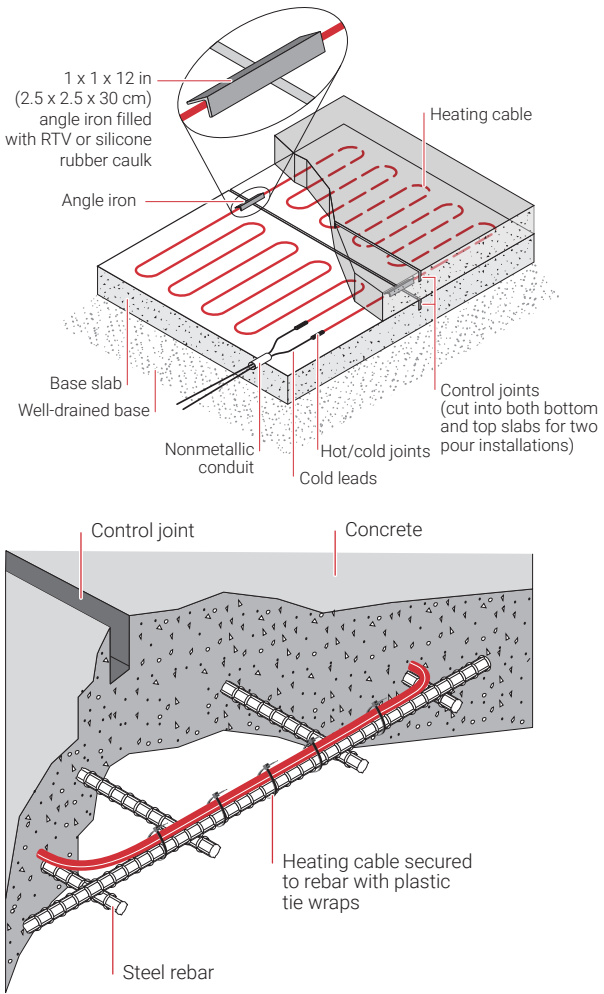
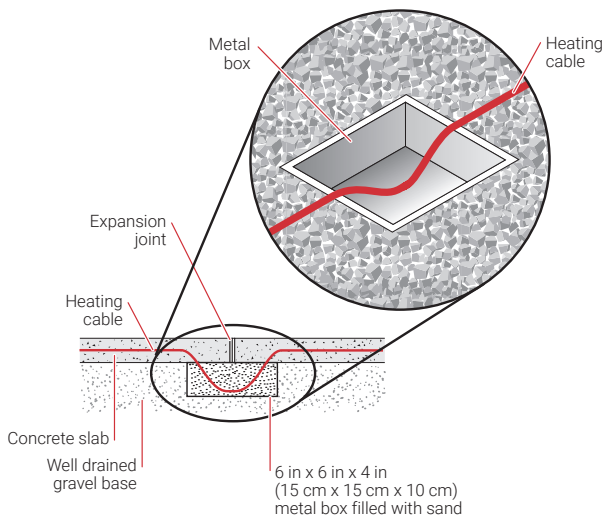

Figure 9: Crossing control joints
Figure 10: Crossing expansion joints
The location of all joints in the ramp or slab should be recorded on the layout drawing. Plan the general layout of the heating cables to avoid crossing control and expansion joints. In some cases, the placement of these joints may have to be relocated in order to divide the area equally since the quantity of heating cables supplied may have been based on equal subsection areas. If necessary, control joints can be crossed using one of the two methods shown in Figure 9. Crossing expansion joints should be avoided, but if this is not possible, use the method shown in Figure 10.
**Control joints** are intended to control where the slab will crack. Their exact location is determined by the concrete installers before the concrete is poured. Because of the reinforcement in the base slab, there is rarely a shearing action caused by differential vertical movement between the concrete on either side of the crack. As a precautionary measure, however, either of the two methods of crossing control joints shown in Figure 9 should be used. Minimize the number of times the joint is crossed as shown in Figure 9. When installing cables using the two-pour method, control joints must be placed in both the base slab and the surface slab.
Construction joints are joints that occur when the concrete pour is going to stop but will resume at a later date. Therefore, their location may not be known beforehand. However, the reinforcement is left protruding out of the first pour so that it enters the next pour and therefore shearing action rarely occurs due to differential vertical movement between the concrete on either side of the joint. As a precautionary measure, either of the two methods of crossing control joints shown in Figure 9 should be used.
adjoining structure. **Avoid crossing expansion joints with the heating cable.** If this is not possible, expansion joints can be crossed using a sand filled metal box as shown in Figure 10.
- If crossing control or expansion joints could not be avoided, ensure that control joints are crossed as shown in Figure 9 and expansion joints crossed as shown in Figure 10.